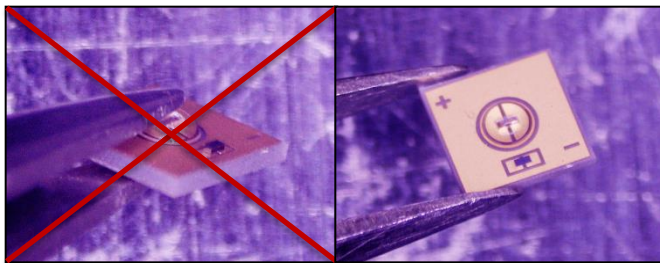

Figure 2. incorrect handling (left) and correct handling(right) of UV Package
- Recommend holding the sidewalls of UV LEDs (See figure 2.)